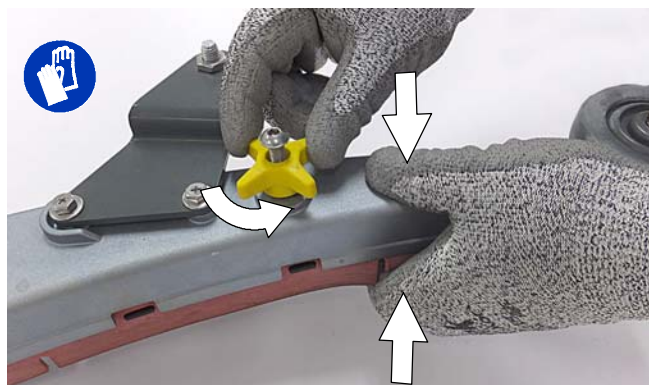

FIG. 136
2. Fully loosen the two outside knobs on squeegee assembly. This will separate the spring loaded blade retainer from squeegee frame (Figure 136). To loosen the knobs quickly, squeeze the blade retainer and squeegee frame together.